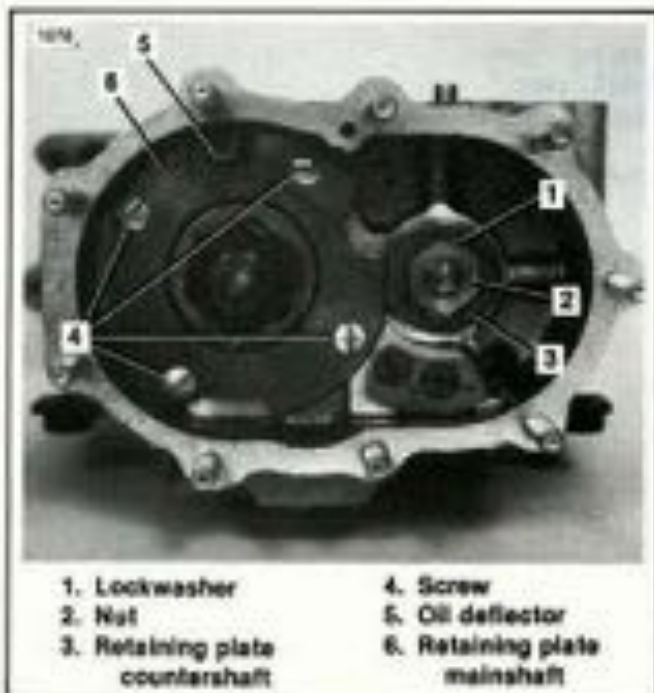

Figure 7-36. Mainshaft and Countershaft Retention — 1978 1/2 - 1979
4. On 1978 1/2-1979 models, see Figure 7-36. Bend the lockwasher (1) ear away from the nut (2). Remove the nut, washer and retaining plate (3).
1. Install the bushing (9), 2nd gear (8) and retaining washer (7) onto the gear (11). Secure all the parts together using a new retaining ring (6).
2. Slide the shifter clutch (5), washer (4), bushing (3) and 1st gear (2) onto the gear (11).
4. Install a new oil seal (15) onto the countershaft (16, 16A). Tap the countershaft in from the sprocket side of the case. The O-ring should be on the sprocket side of the case.
5. Check the gear end play between the washer (1) and the countershaft gear (11). End play should be .004-.012 in. If end play is not within this range, increase or decrease end play by substituting the appropriate size washer (1). Washers are available in the following sizes: 0.074, 0.078, 0.082, 0.085, 0.090, 0.095 and 0.100 in.
6. On 1978 1/2-1979 models, see Figure 7-36. Install the retaining plate so the flat side registers against the mainshaft retaining plate. Install the lockwasher and nut. Tighten the nut to 55-60 ft-lbs torque. Bend the lockwasher tab against a nut flat.